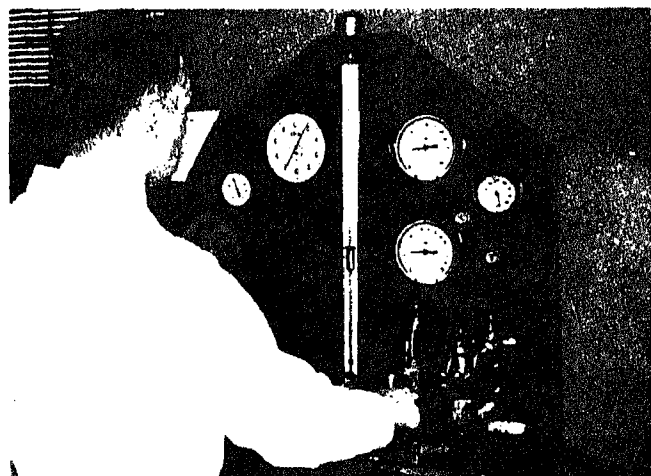

Fig. 511-22. Check governor speed at pressure
3. Check governor setting by continuing to raise pump speed until fuel manifold pressure gauge drops off to 40 psi or as indicated by "Governor Setting — PSI — RPM" in the calibration data. Fig. 511-22.